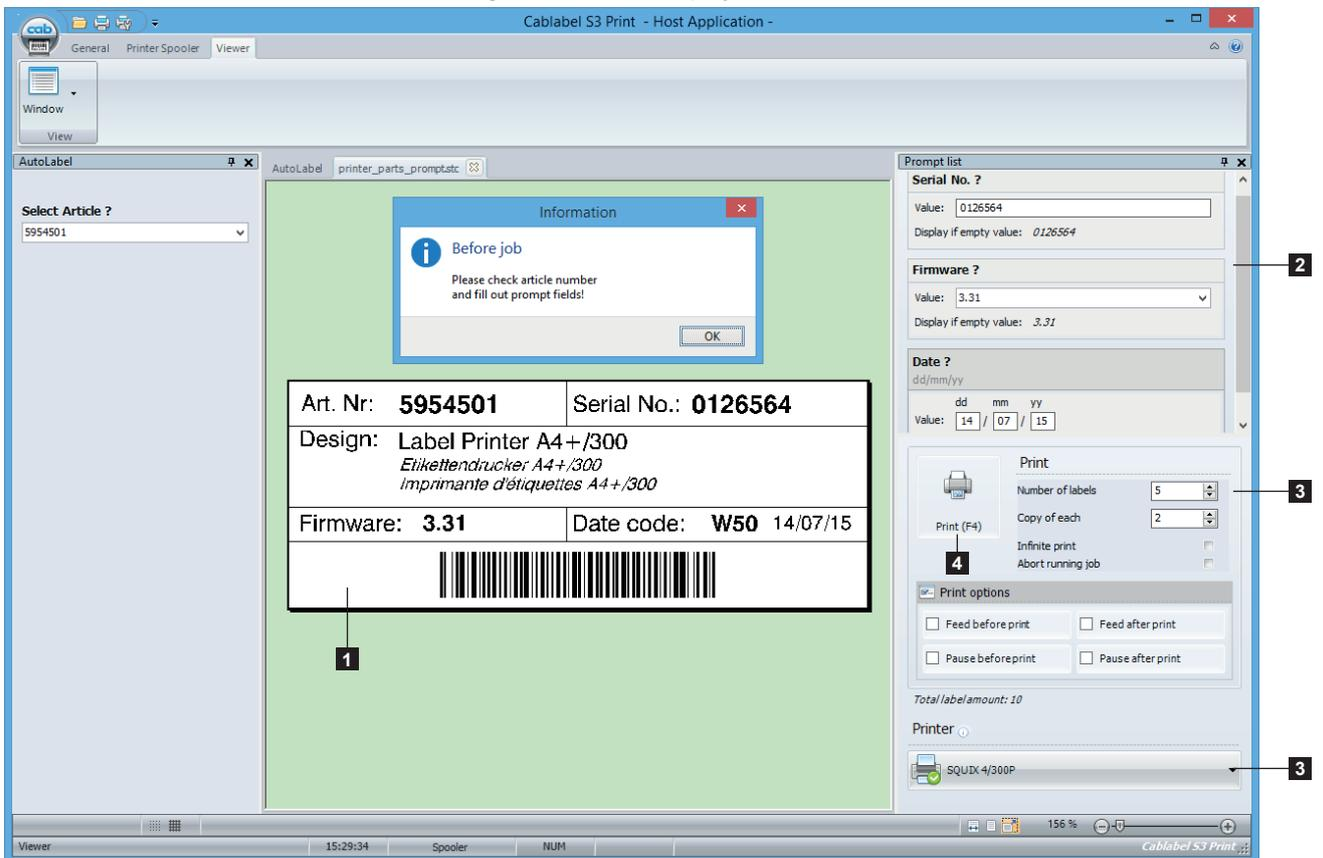

Figure 45 AutoLabel printing
6. Overview of database with a filter builder wizard, in order to do a custom records selection and set the printing quantities ▶ Figure 45